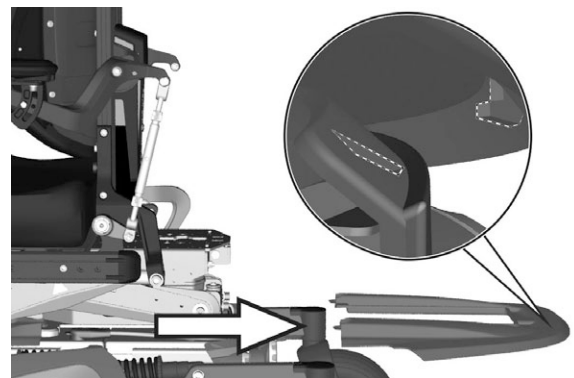

Figure 5. The chassis top cover.
5. Pull the top chassis cover off the chassis. See fig. 5.